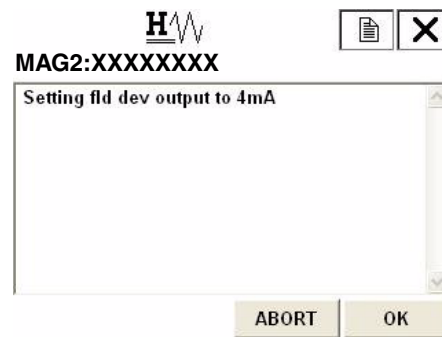

Figure 104.
- Figure 104 then appears. By pressing F4 (OK), current adjustment starts and the transmitter outputs a current corresponding to 0% of the flow range. If it is fine, press F4(OK).